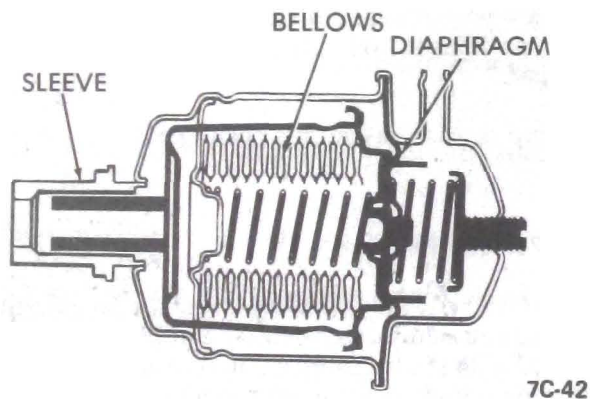

Figure 7C-2 - Vacuum Modulator Assembly
The vacuum modulator, see Figure 7C-2, has three areas to be checked. If any one of the three (3) areas fail to pass the prescribed checks, the modulator must be replaced.